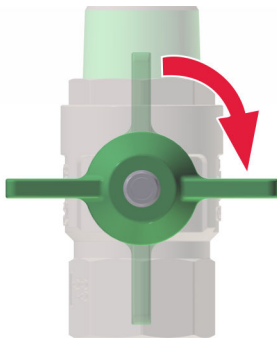

Fig. 33: Closing the main shut off valve
1. ➤ Close all main shut off valves (Fig. 33) on the fresh hot water station.